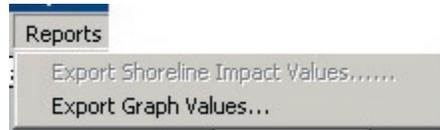

Figure 42. Menu for exporting Resource Analysis values.
- 1 Choose Reports > Export Graph Values... see figure 42.